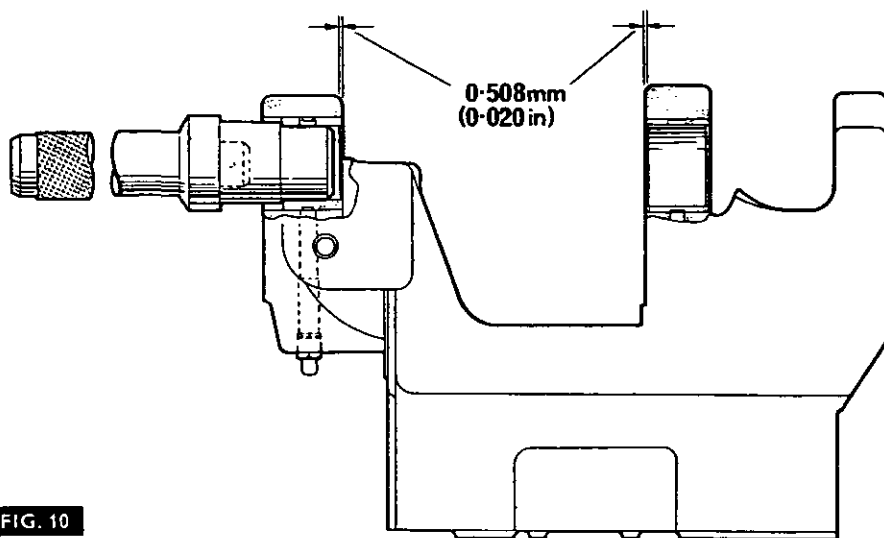

FIG. 10
2. Fig. 10. Drive out the two bushes from the axle support using the bush remover MF 322 and the 550 handle.